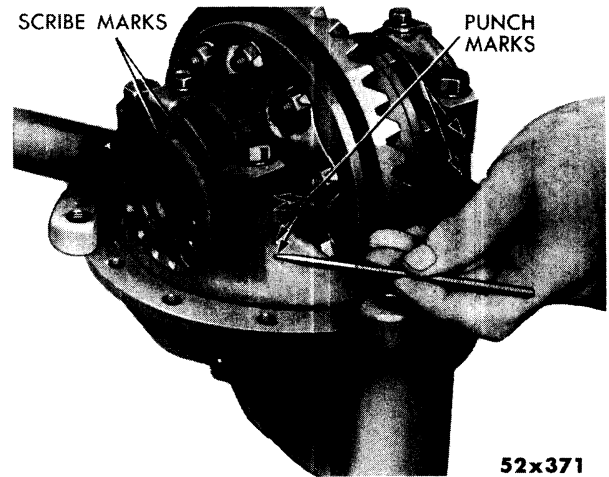

Fig. 16—Marking Bearing Caps and Adjusting Nuts
- (1) Mount the carrier assembly in stand. Mark both differential bearing adjusters and caps, so they may be reinstalled in approximately the same position at assembly (Fig. 16).